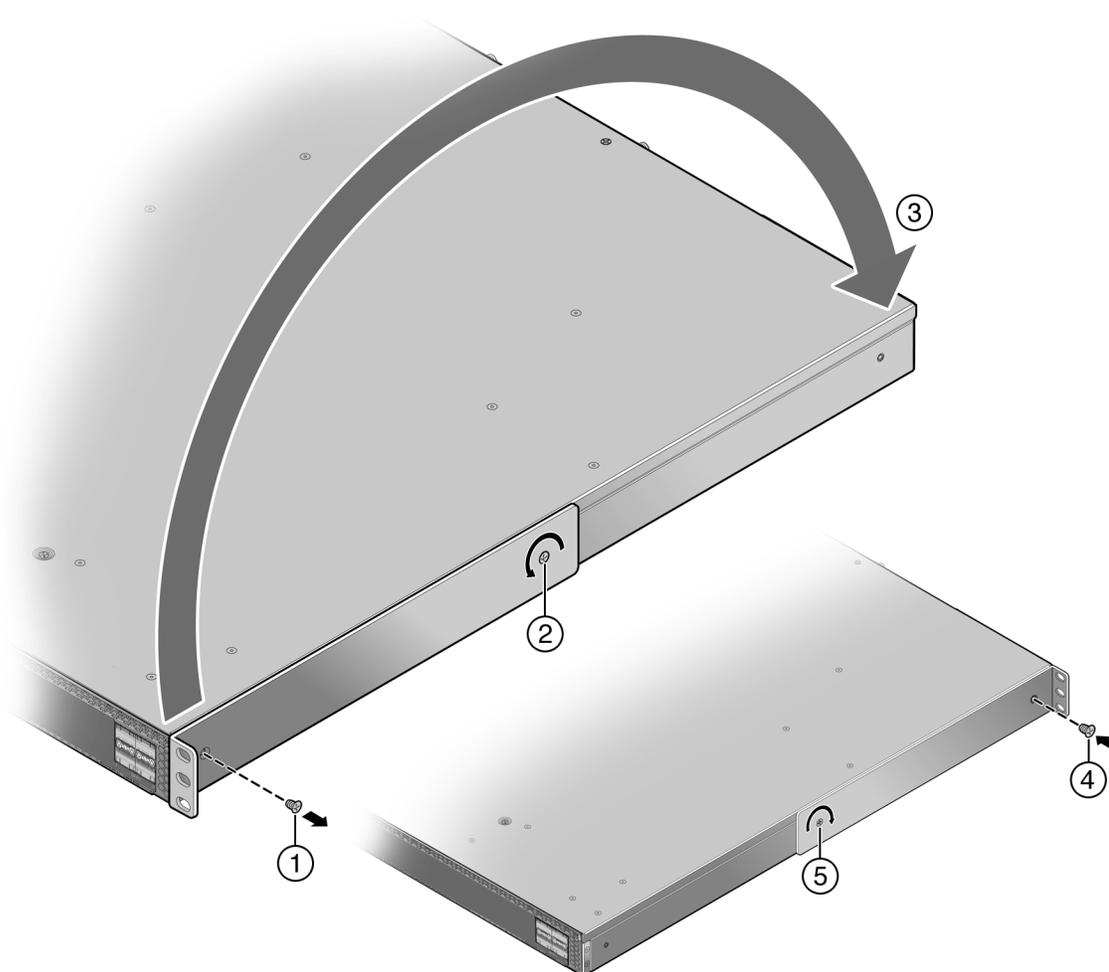

Figure 5: Flush Mount Power Supply Front Configuration
- 1 Remove the screw by the three holed ear, as shown in Figure 5: Flush Mount Power Supply Front Configuration on page 19 callout 1, and loosen the opposite screw, shown in callout 2.